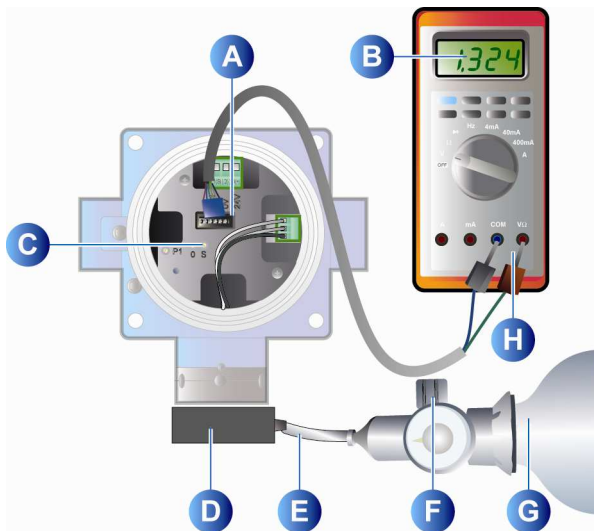

Figure 19 : sensitivity adjustment (OLCT100).
2. Insert the blue and green plugs on the measurement lead into the + and - multimeter sockets, respectively (0-2 V range or similar) (Figure 19, "H").